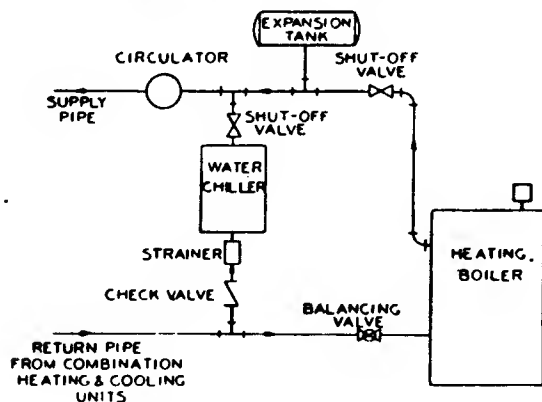

FIGURE 3
4. For Type P-CG and CGM boilers, connect the system return piping to the circulator counter flange (see Figure 3). Be sure not to overheat the gasket between the flanges when soldering fittings.
If the boiler is used in connection with a refrigeration system, the chilled medium shall be piped in parallel with the boiler and with valves to prevent the chilled medium from entering the boiler; see figure 3.